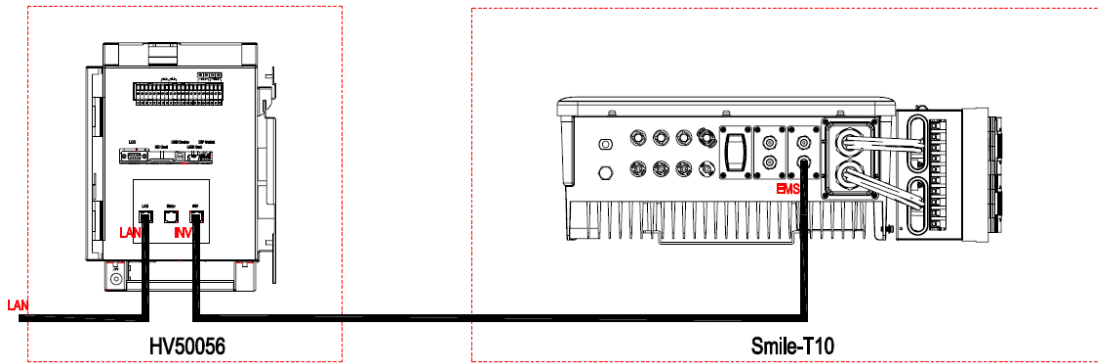

Figure 30 Connection of the Communication Cables on the Inverter Side
Step 11: Connect the communication cable between INV COM port of HV50056 and EMS COM port of the Inverter, as Figure 30 shows.